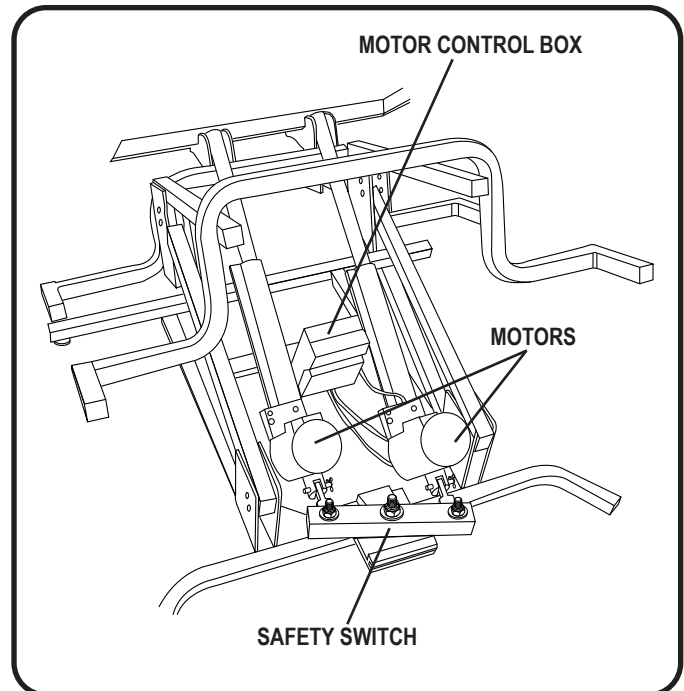

Figure 6.1 Out-of-sync Motors
1. Activate the hand control on the lift chair. If there is no movement in either direction, check if the motors are out of sync and that the pressure-sensitive safety switch has been activated. Out-of-sync motors will show one motor extended farther than the other and a pinched safety switch (**Fig. 6.1**).